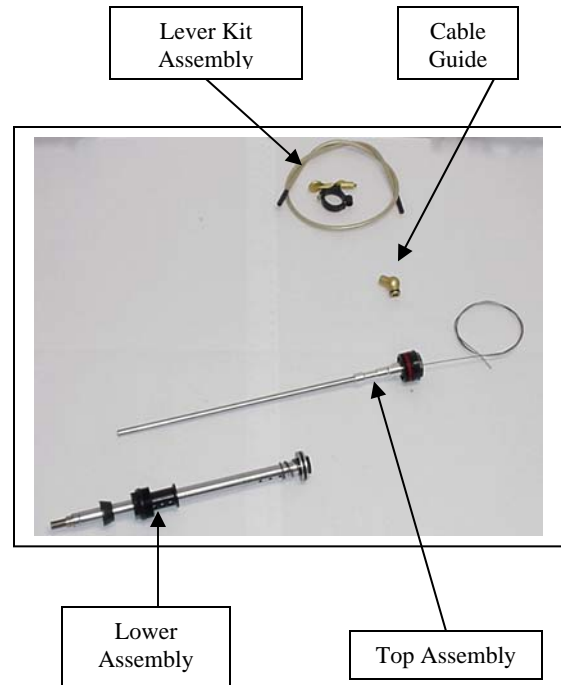

Figure 9
3. Once the piston is off of the shaft, you will see a small Black Quad ring inside the top of the shaft that you just unscrewed the piston from. Use a small diameter object to remove the Quad ring from the shaft. Replace this Quad ring with a new one from your IT O-ring kit. Be sure that it is seated in the shaft and rests flat against the shelf inside of the shaft. (Refer to Figure 9)